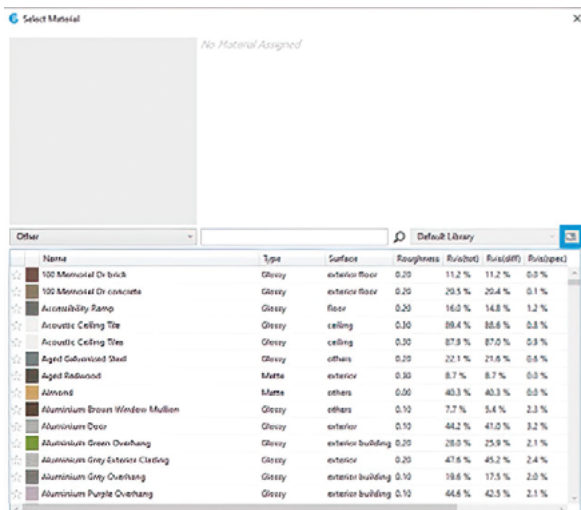

Figure 8 Select material prompt, "Manage Lighting Material"
Step 5: To assign a window with MicroShade®, click on the material field next to the Window layer. A prompt will now open, where you click **"Manage Lighting Material Libraries"**, marked with blue in figure 8.